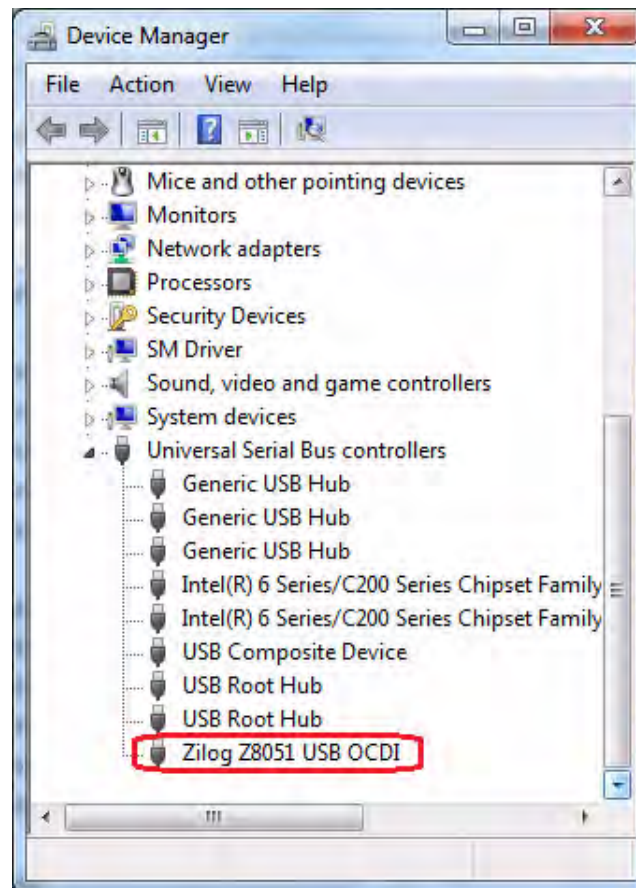

Figure 9. The Device Manager Dialog for the OCDI Installation
- a. If *Zilog Z8051 USB OCDI* appears in the Device Manager when using the OCDI debug tool, as indicated in Figure 9.